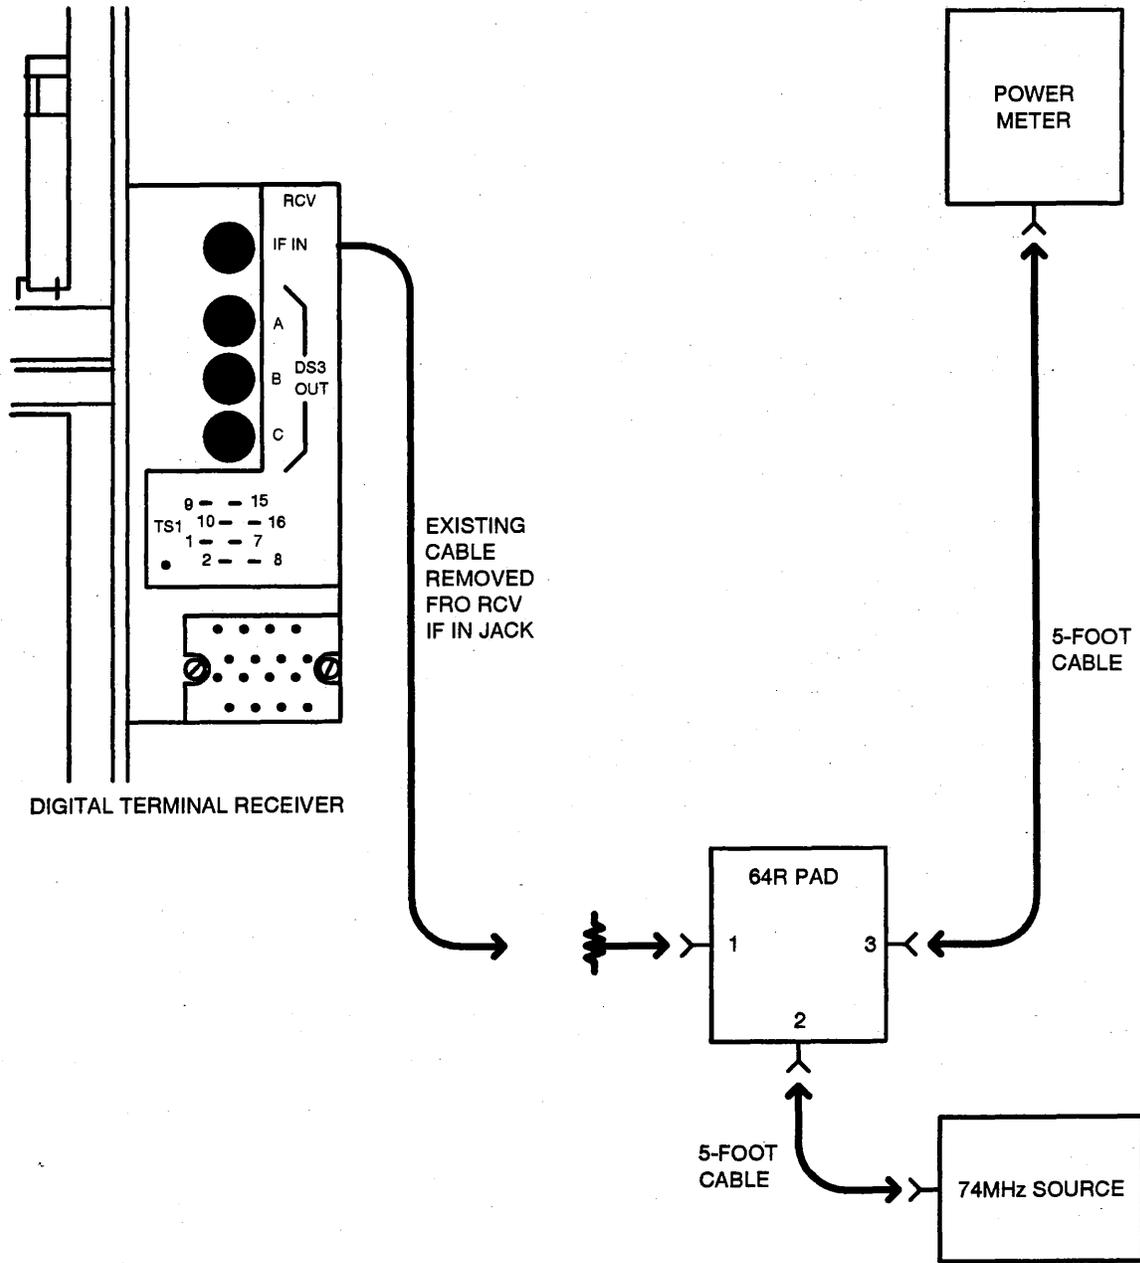
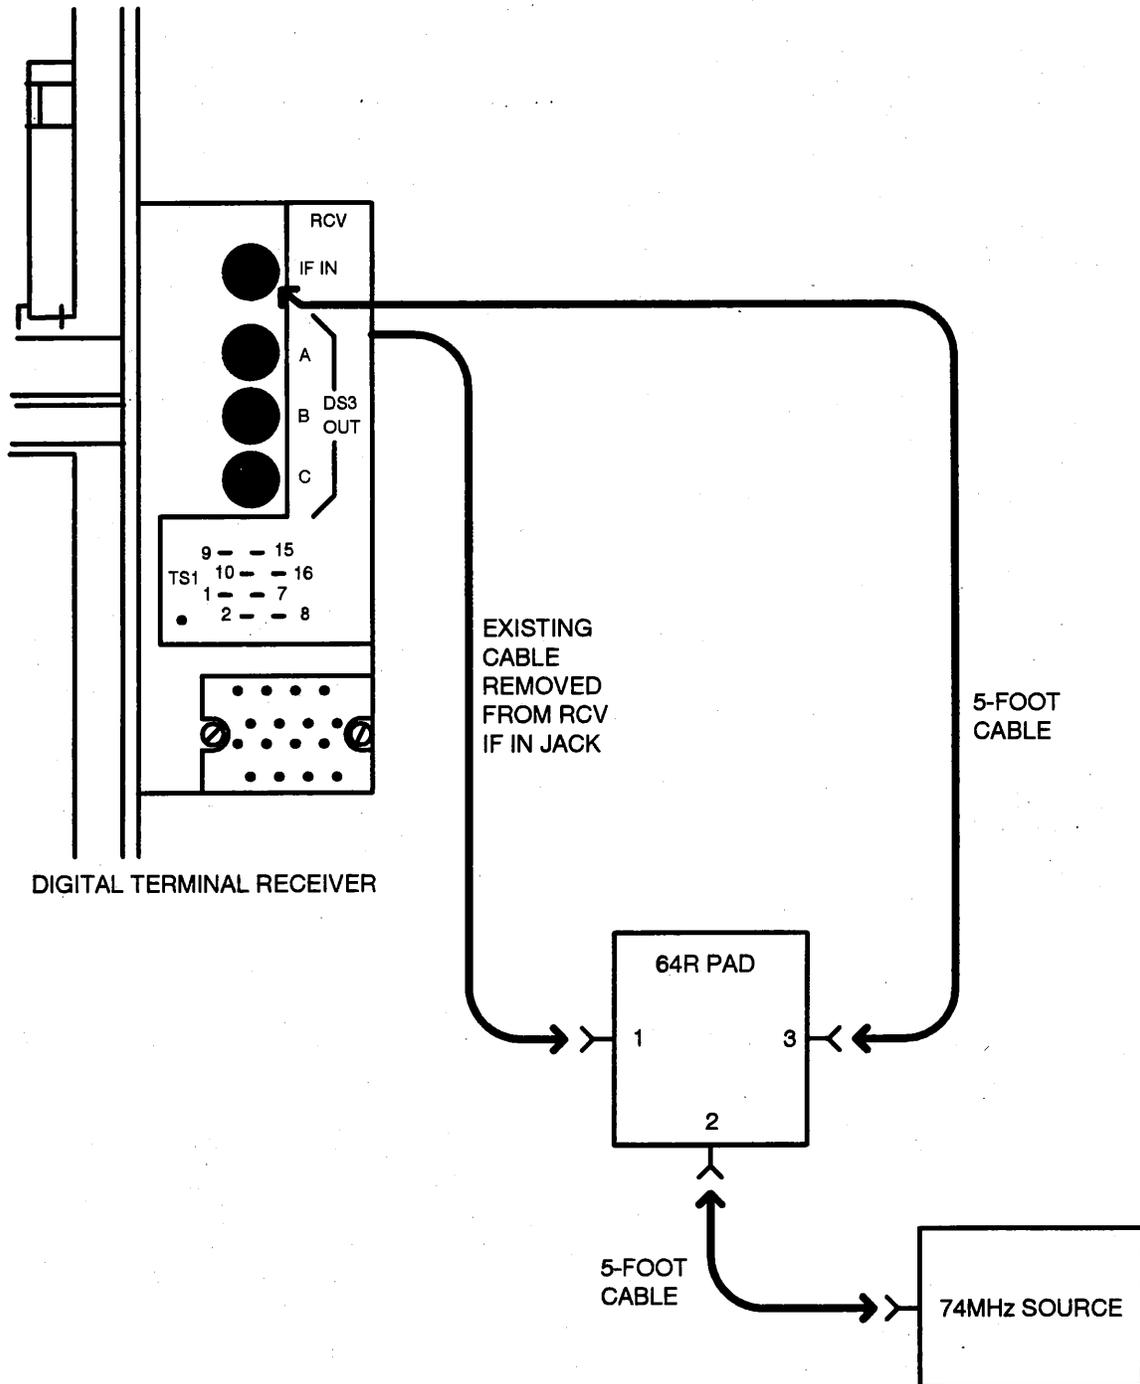

Figure 6- IF Input Signal Level Measurement Test Connections
Figure 7-Terminal Over-the-Air Error Corrector Stress Check Test Connections
The test configuration used for this evaluation is shown in Figure 7. The normal receive IF signal "S" is connected to the low-loss input of the unequal loss combining network (Figure 6). The "S" power level is then measured at the output of the combining network. The 74-MHz interference "I" level is established by direct power measurement. The "I" component is then connected to the high-loss input of the combining network. The resulting "S+I" signal from the combining network is connected to the digital receiver IF input.
- Refer to Figure 7.
**Note:** Determine the "S" and "I" test cables to establish the setup in Figure 7; then keep the same cables for all tests in this procedure.
2. On the terminal shelf patch panel, remove the IF input cable from the RCV IF IN jack for the digital receiver to be evaluated and establish the setup in Figure 6.
5. Establish test connections per Figure 7.